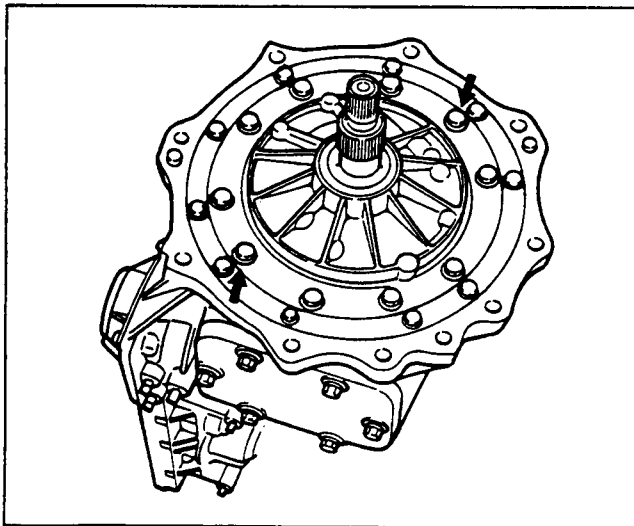

Figure 289. Oil Pump Installation (4)
6. Remove the slide hammers and fix it with two new bolts to which flange face sealing compound is applied (figure 289).